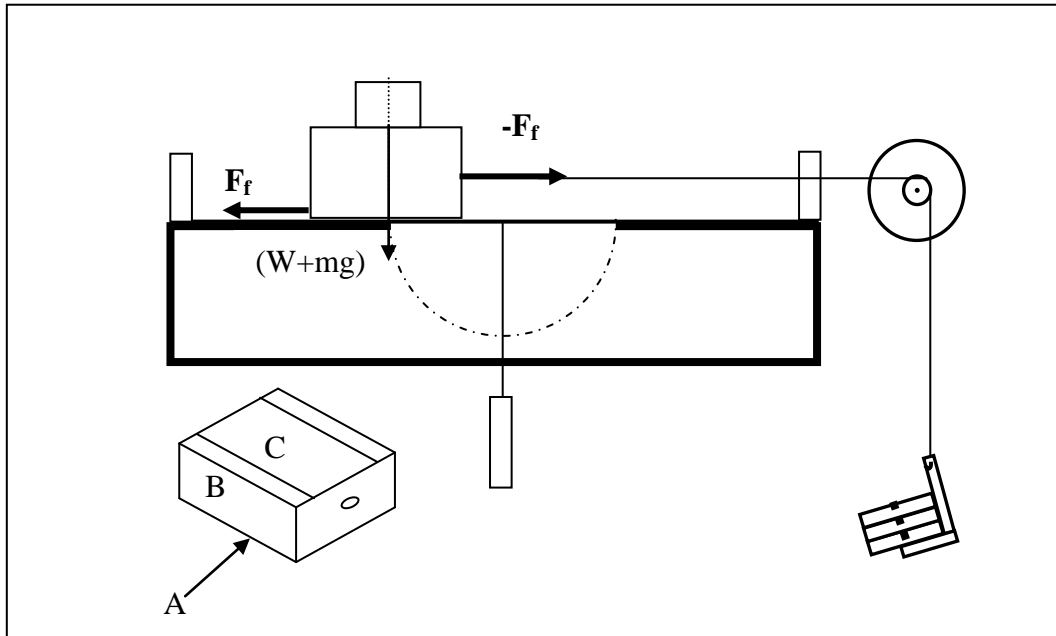

Figure 8.6: Equipment Setup
- 2- Set up the equipment as shown in Fig.8.6. Use the built-in plumb bob to ensure that the inclined plane is level.